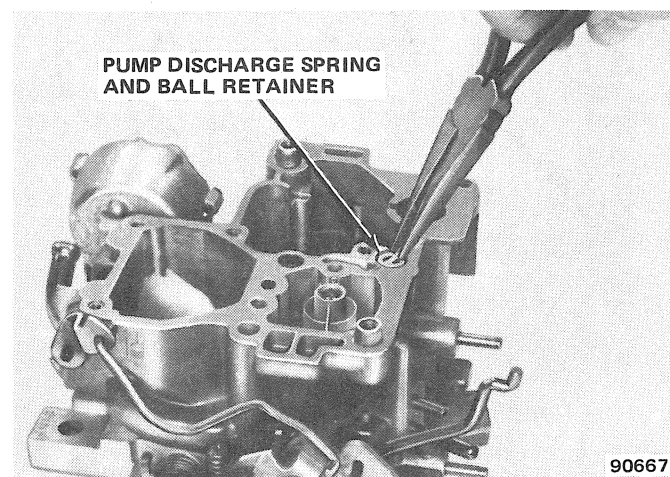

Fig. 1J-38 Model 2SE Carburetor—Pump Discharge Retainer Removal
(16) Remove main metering jet with Tool J-22769 or suitable screwdriver. Screwdriver must fully fit slot in top of jet to prevent damage to jet (fig. 1J-37).